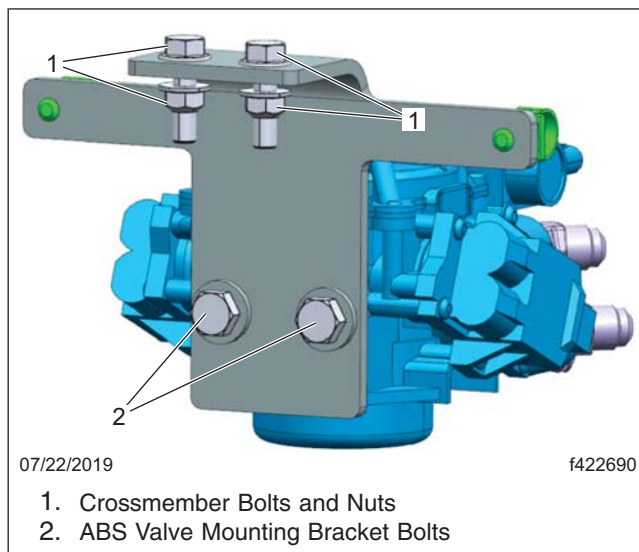

Fig. 3, ABS Valve Mounting Bracket Fasteners
6. Remove the two nuts and bolts that mount the ABS valve bracket to the crossmember. See Fig. 3, item 1.
7. Remove the two bolts that mount the ABS valve to the mounting bracket. See Fig. 3, item 2.